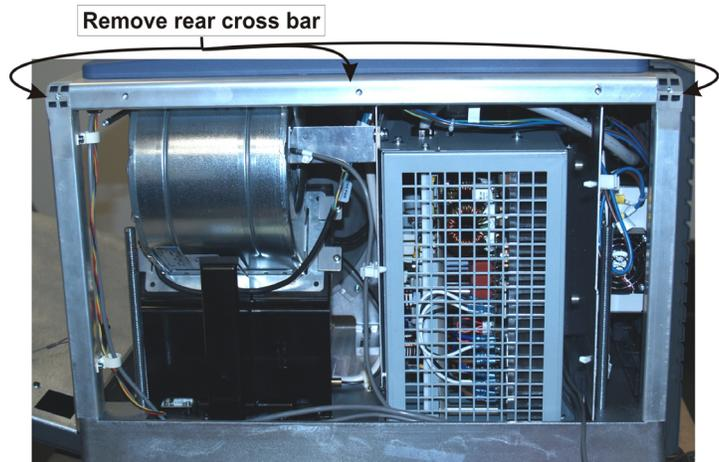

FIGURE 1-36 REMOVE REAR CROSS BAR
14. Remove the rear cross bar - 2, 4mm end screws and 1, #2 Phillips center screw. (Figure 1-36)